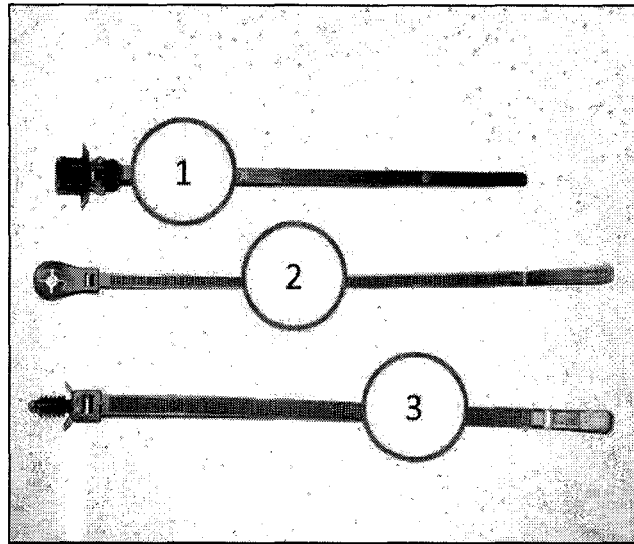

Fig. 1 KIT CONTENTS
2. Open the 68257352AA kit and lay out the contents (Fig. 1).